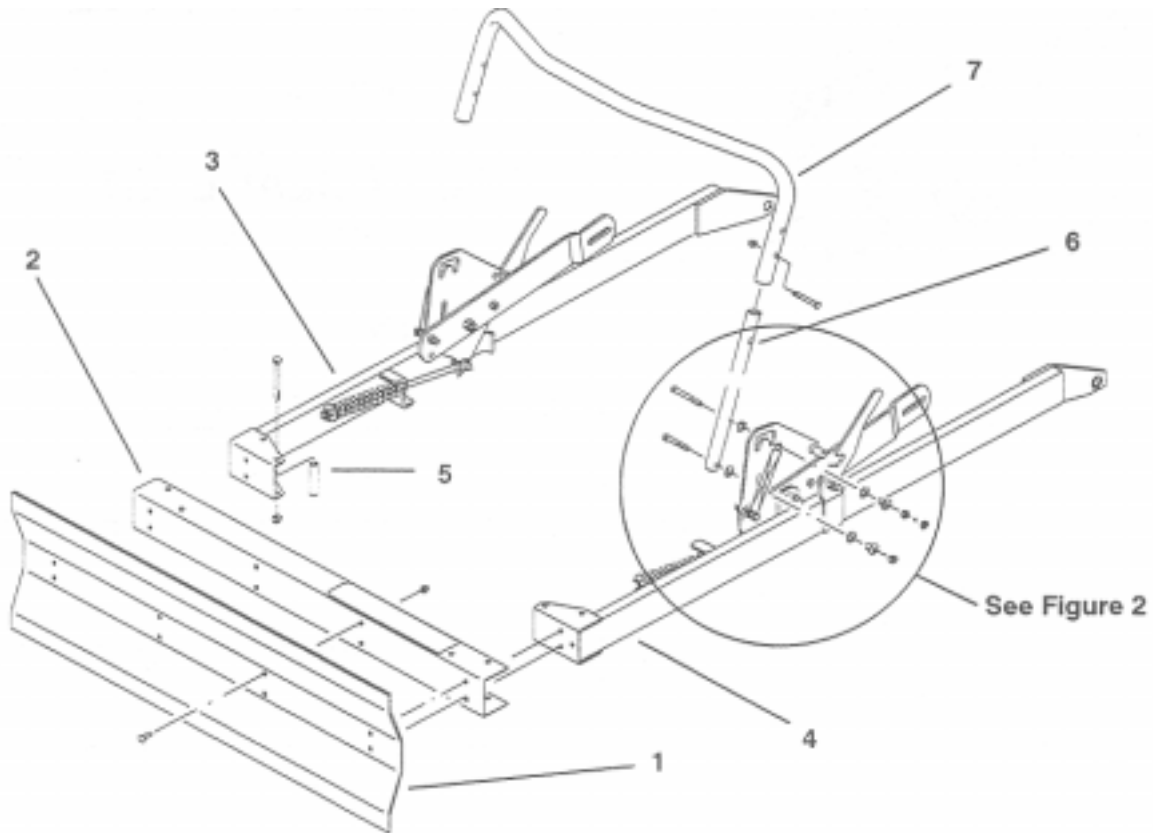

Figure 1
- Using the center holes, assemble the blade to the channel with 4 carriage bolts (5/16 x 1 inch) and 4 locknuts (5/16 inch). Refer to Figure 1.
7. Secure the upper handle in place with 2 cap screws (5/16 x 1-3/4 inch) and 2 locknuts (5/16 inch). Refer to Figs. 1 and 2.